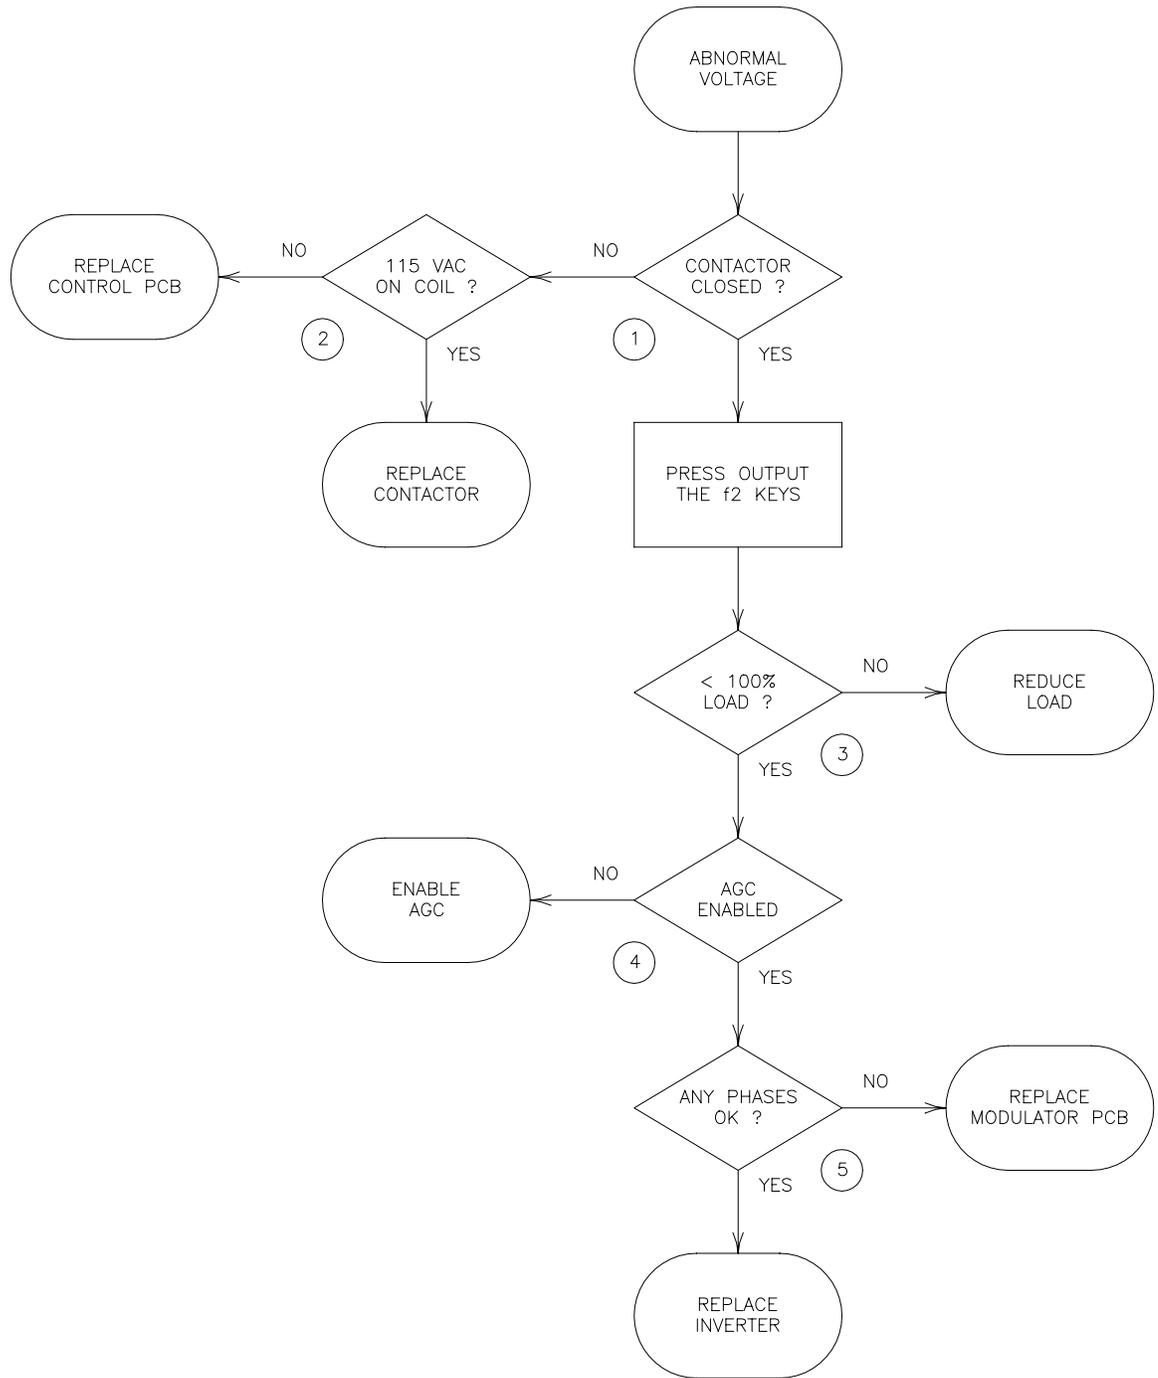

FIGURE 6.3.6 ABNORMAL VOLTS FLOW CHART
6. Pressing OUTPUT then f3 KEYS shall cause the O3 display to be active. This allows metering of SYSTEM VOLTS, the output terminals. With a load applied verify the output volts or SYSTEM VOLTS are OK. If not go to figure 6.3.6.
The numbered comments below correspond to the circled numbers on figure 6.3.6 and provide detailed instructions relative to the referenced step.